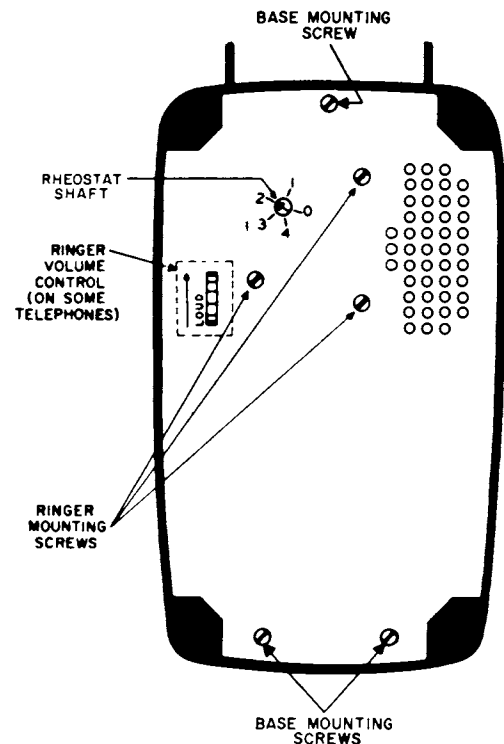
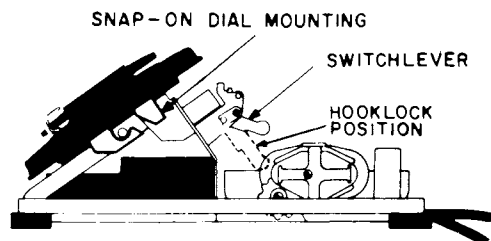

Figure 6. Baseplate.
Figure 7. Hooklock and Dial Mounting.
5.02 To remove the telephone housing, locate the three base mounting screws (Figure 6) and loosen the screws. Lift and remove the housing. If the telephone is connected to a line, push the switchlever (Figure 7) down to its locked (hooklock) position. This keeps the transmission circuit off the line and the ringer on the line while the telephone is being worked on. When the housing is replaced, the actuating lever is unlocked automatically. This will restore the switchlever to its normal position, placing the hookswitch under the control of the plungers.
in the Type 85 telephones has a snap-on bayonet lug pin mounting as shown in Figure 7. To remove the dial, press down on the dial and at the same time slide the dial down until the lugs are disengaged from the pins. Tip up the bottom of the dial to expose the wiring and transparent cover over the working parts of the dial. Do not remove any dial wires unless the dial is to be replaced. If the dial is to be replaced, remove the dial wires from the transmission unit terminals and remove the dial. Remove the mounting bracket from the old dial assembly and fasten it to the new dial assembly. Fasten the dial wires to the dial springs and their respective terminals on the transmission unit. To replace the dial into the telephone, place the dial mounting lugs over the mounting pins and press down, exerting an upward pressure until the dial snaps in place.
5.04 Remove the telephone housing and terminal strip "B." At terminal strip "B," disconnect the red ringer wire and black capacitor wire. At the transmission unit, disconnect the green ringer wire and white capacitor wire. Remove, through the bottom of the baseplate, the three ringer mounting screws (Figure 6). Remove the ringer assembly and replace with new ringer assembly using the same mounting screws. Connect the red ringer wire and black capacitor wire to terminal strip "B" terminals, and green ringer wire and white capacitor wire to transmission unit terminals, referring to applicable schematic and wiring diagrams.
6.02 Call the central office for a ringing test. If the telephone has a straight-line ringer with an adjusting wheel, adjust the volume of the ringer to a level suitable to the customer. To adjust the volume of a straight-line ringer, turn the plastic adjusting wheel which protrudes through the baseplate (Figure 6) in the direction indicated by the arrow.
6.05 The rheostat is mounted on the baseplate with its slotted shaft accessible through a hole in the underside of the baseplate (Figure 6). The shaft slot has an arrowhead shape to permit indexing with designations from 0 to 4 which appear in a circle surrounding the shaft hole. These index points correspond roughly to rheostat settings of zero through 400 ohms of series resistance inserted into the loop.